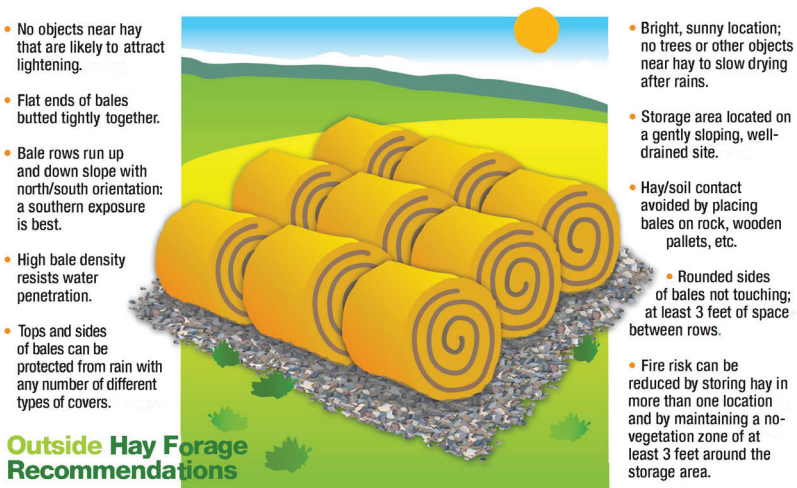

Figure 3. Outside hay storage recommendations
- Hay/soil contact is usually the most important source of spoilage of hay stored outside and should be eliminated if possible. This and other outside hay storage tips are illustrated in figure 3.